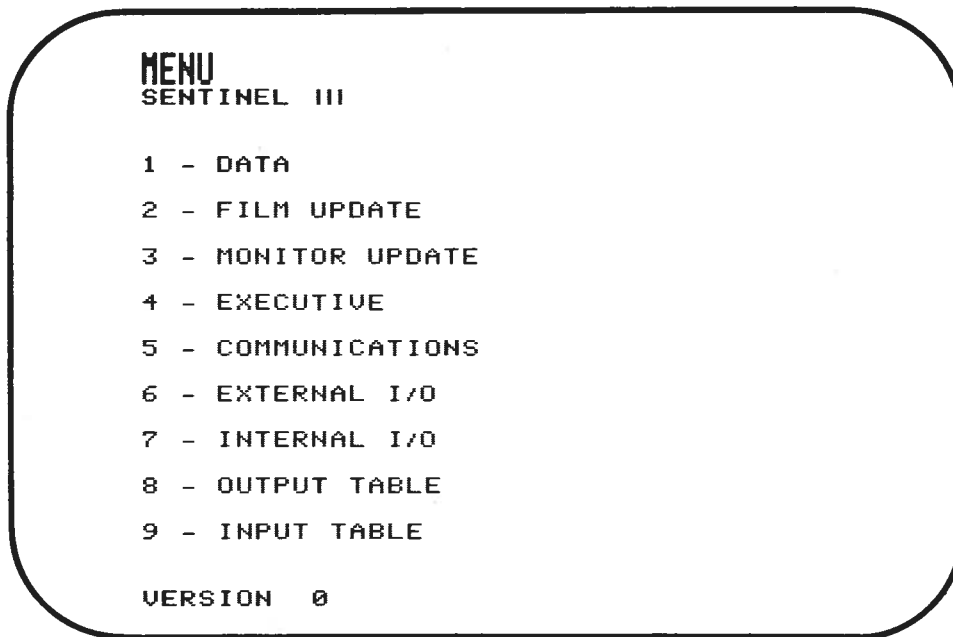

Figure 2.21 Menu Display
2.3.2 MENU DISPLAY (Figure 2.21)